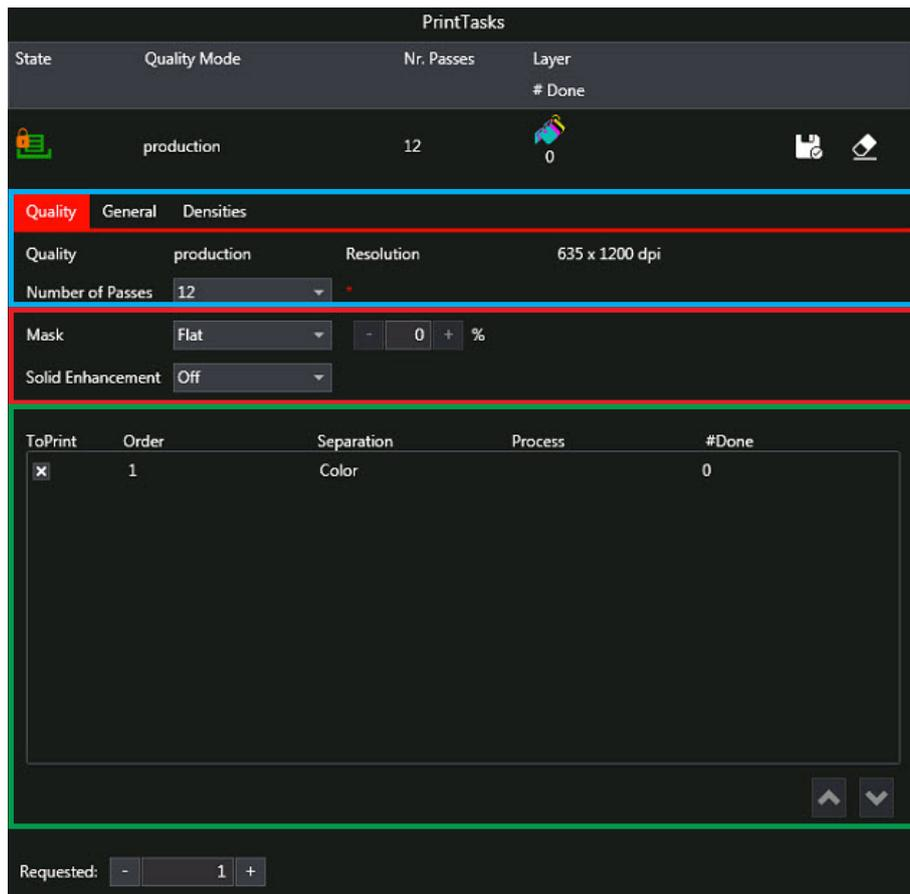

Fig.6-33 Print Tasks Pane - Quality Tab
- Masking control (outlined in red in Fig.6-33). The mask is a software-controlled randomization of the print head nozzle usage. You can select Flat mask or Gradient mask method and percentage of masking. See for more info document Describing Gradient
- Layer selection (outlined in green in Fig.6-33). The layer selection check boxes allows the operator to print layers separately and change the order of the layers of a PrintTask. Only supported combinations are allowed.
- Number of passes (outlined in blue in Fig.6-33). The quality level is defined according to the number of passes and applied resolution see detailed in Table 6-1: